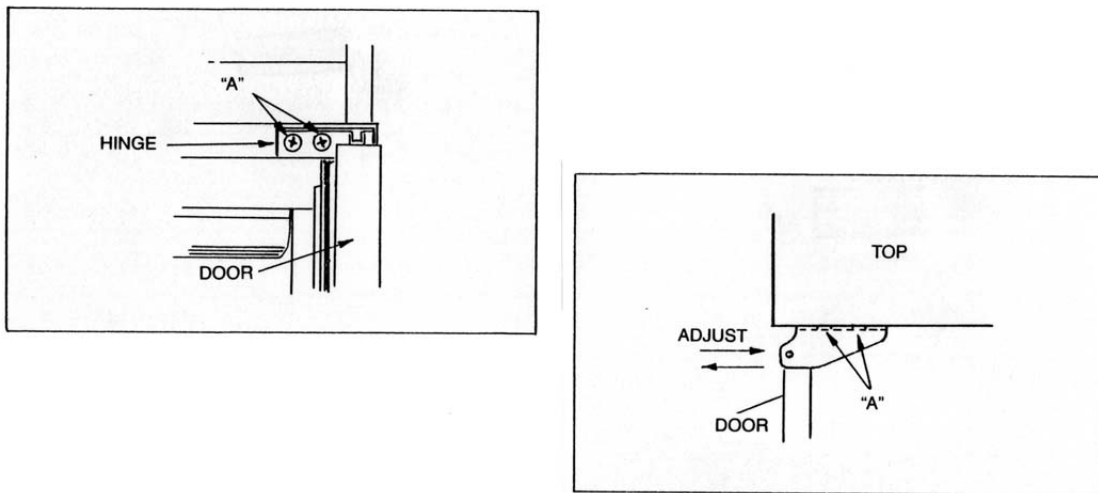

FIGURE 5
During installation, it may become necessary to remove the cabinet doors to facilitate passage through narrow doorways or hallways. To remove a door, swing the door to the open-door position (90 degrees) and remove the two screws marked "a" (figure 5) while carefully holding the door open. Care must be taken to hold the door fully open during the screw removal since the top hinge is spring loaded and may snap towards the door when the screws are removed. After removing both screws, carefully lift the door straight upward to avoid bending the bottom hinge pin. To reinstall the door, reverse the above procedure.
1. Swing the door to the open-door position and loosen but **do not remove** the screws marked "A" on both top and bottom hinges (see figure 5).